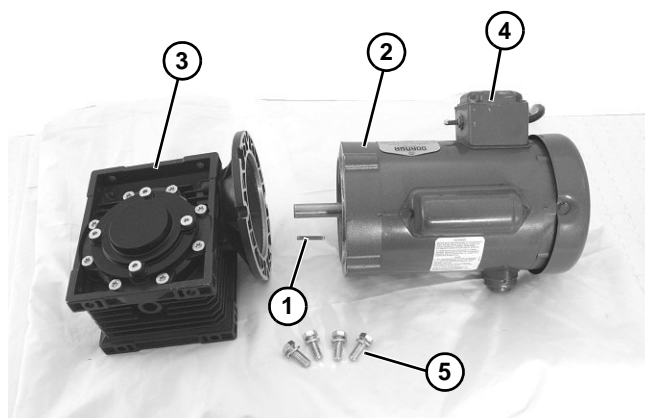

Figure 12
8. With key (**Figure 12, item 1**) in keyway, slide motor (**Figure 12, item 2**) and gear reducer (**Figure 12, item 3**) together, noting where position of switch (**Figure 12, item 4**) will be during installation on conveyor.
9. Install screws (**Figure 12, item 5**) and tighten to 65 in-lbs (7.3 N-m).